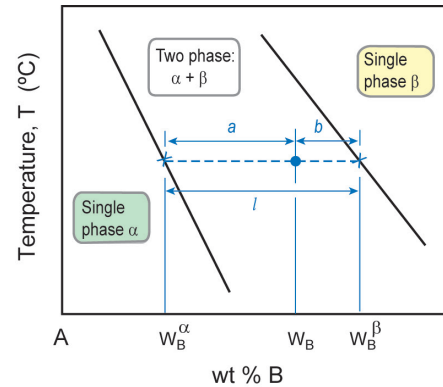

Figure 3: The lever rule
8. Derive the lever rule for a general mixture of two phases, α and β (Figure 3).